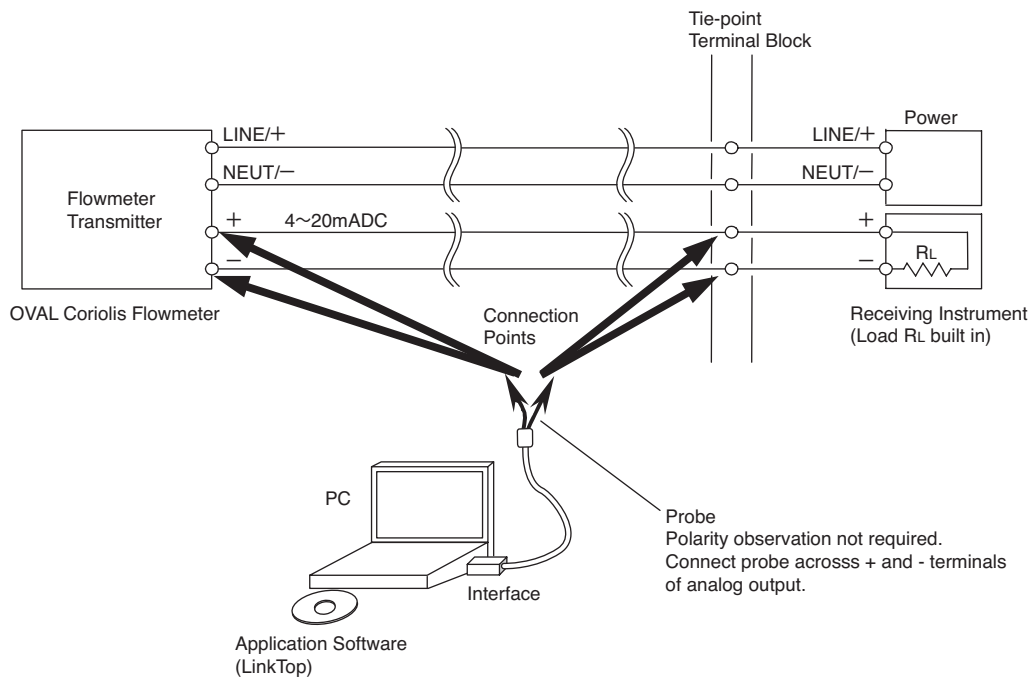

Fig.2
Equipment set-up with associated equipment and devices are shown in Fig. 2.
➡ NOTE: In Fig. 2, the customer is to supply the PC that meets the following requirements:
- ① Hook up the flowmeter transmitter, interface adapter, and "LinkTop" preinstalled PC as shown in Fig. 2.
- ② To get the LinkTop up and running, click "Start" at lower left of the PC screen and click "LinkTop for Coriolis ALTI mass (E) " from "Program".
- ③ Click "Port settings (I)" in "File (F)" at the top-level menu of screen.